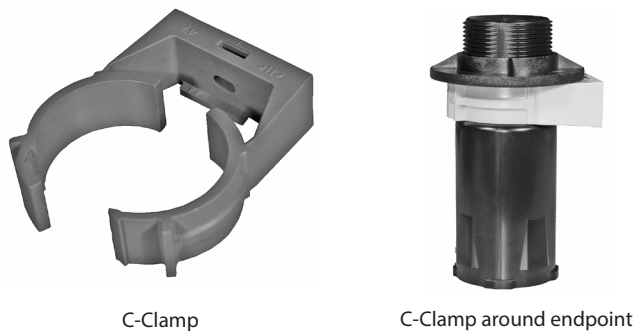

Figure 36: C-Clamp and placement
To mount an ORION endpoint using this kit, follow these steps and refer to Figure 36.
3. Thread the lock nut on the endpoint until it makes contact with the neoprene spacer as shown in Figure 36.